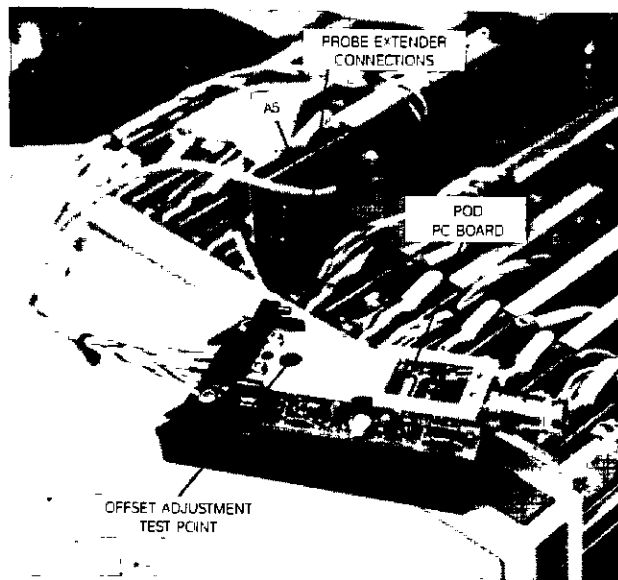

Figure 7C-2. Probe Extender Connections
- c. Disconnect probe wiring harness and flexible coax from channel 1's sampling board (A5). Connect probe extender in its place. Raising the PC board slightly will help facilitate these connections. Make sure board is reseated before continuing. Refer to figure 7C-2.
2. To calibrate probe circuitry, the probe board must be removed from probe shell. To accomplish this, remove two torx screws from rear of pod (see figure 7C-3).
3. Remove probe cable assembly from pod by loosening two set screws at front of pod, and unscrewing cable connector from pod (see figure 7C-3).
4. Reconnect cable connector to PC board as shown in figure 7C-2.
5. Connect PC board to probe extender. This allows adjustment points to be exposed (see figure 7C-2).